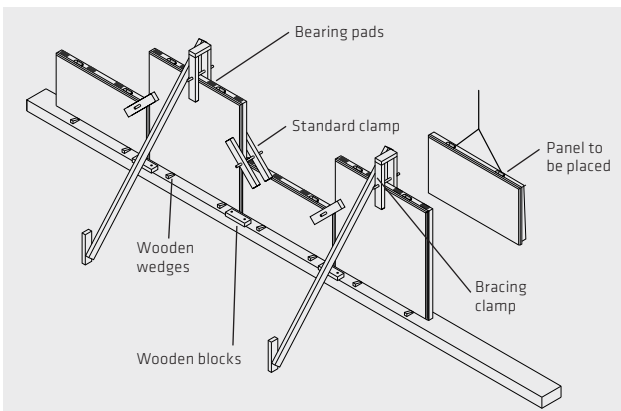

FIGURE 10: Layout of bearing pads, wedges and clamps.
- ▶ On the taller panels, install a header clamp and brace and tighten the clamp securely. Drive a stake in front of the wall at the midpoint of the panel for adequate bracing. (See Figure 10.) Nail the bottom of the brace into the stake. Check the batter and then nail the brace to the header clamp.
- ▶ On the half-panels, the header clamp and staking are not necessary; the half-panels should be held in place by clamping to the adjacent taller panels. At every vertical joint, position a standard clamp at the top of the half-panel (such that it will result in one clamp on either end of the half-panel) and loosely fasten it. (See Figure 10.)
- ▶ Nail 2 x 4 wooden blocks at the joint of the panel to prevent sliding during backfill of the first course. (See Figure 10.)